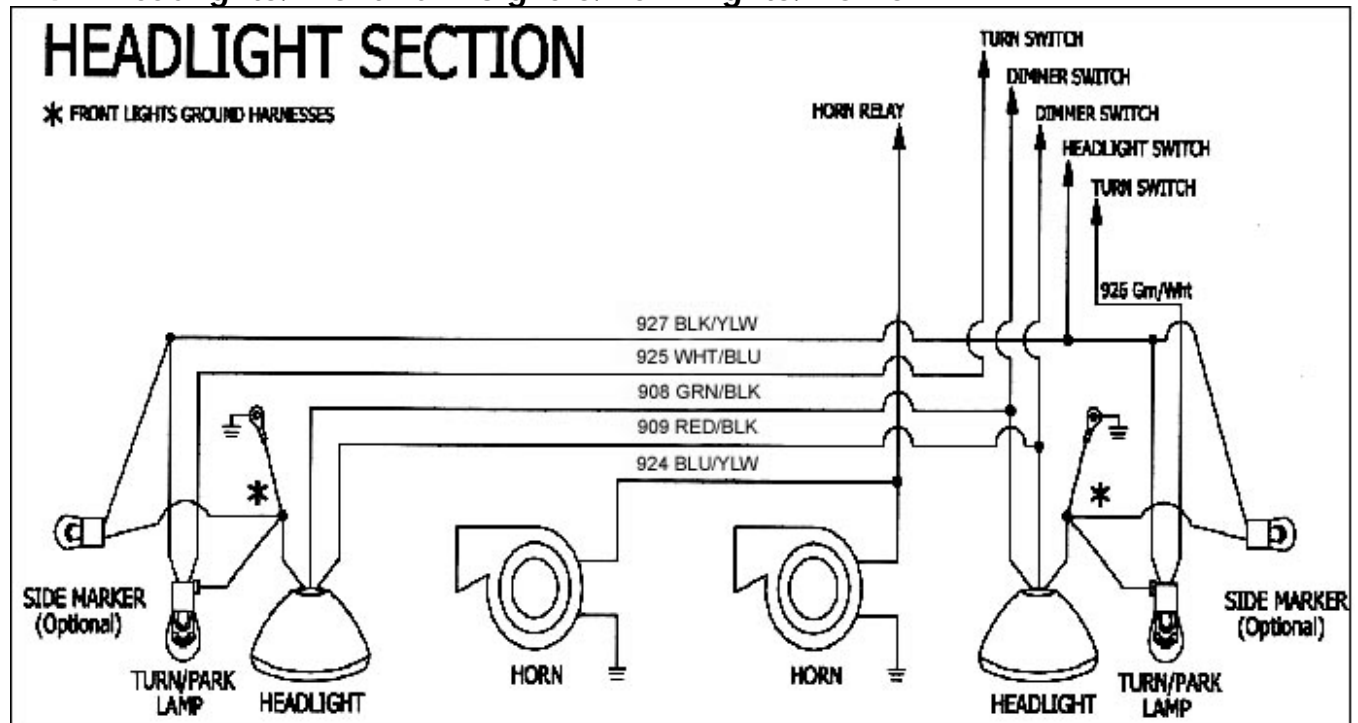

Figure 7-8 Front Lights and Horns
- 7.4.2 *The Front Lights Ground Harness has one 14 gauge wire and two 18 gauge wires. One end of the 14 gauge wire is pre-terminated and will need to be connected to a body bolt. **See Figure 7-9.** The other end of the 14 gauge wire is for the headlights ground. The two 18 gauge wires are to be connected to the Turn/Park Lamps ground and to the Side Marker Lamps ground. **See Figure 7-8.**